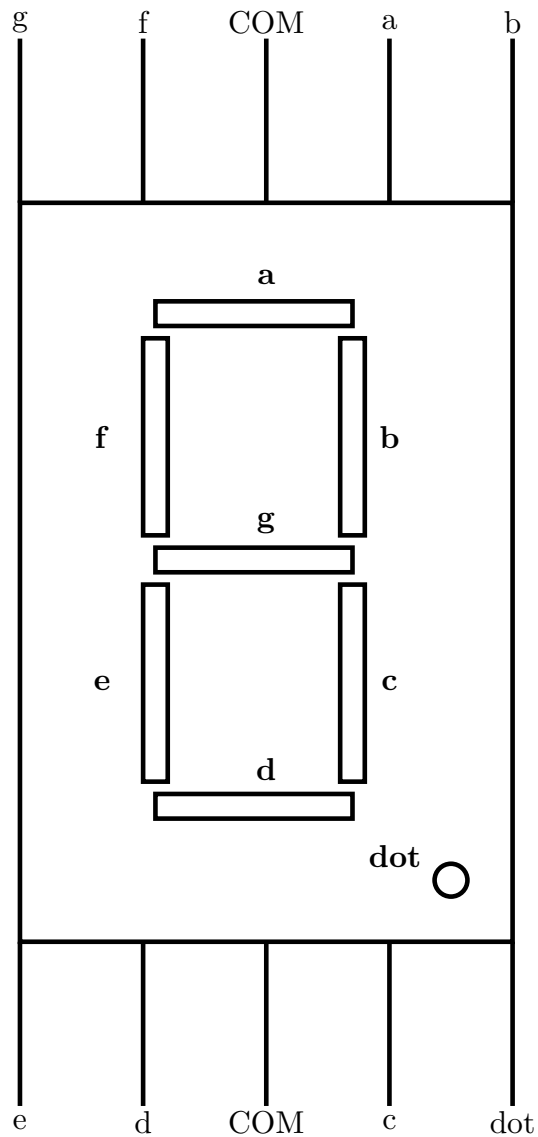
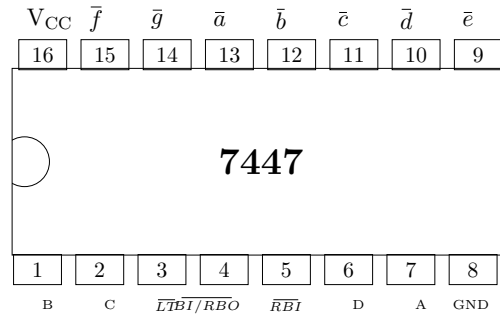

Figure 2.2: Seven Segment pins
Figure 3.1:
The seven segment display in Fig. 2.2 has eight pins,  $a, b, c, d, e, f, g$  and  $dot$  that take an active LOW input, i.e. the LED will glow only if the input is connected to ground. Each of these pins is connected to an LED segment. The  $dot$  pin is reserved for the  $\cdot$  LED.
1. Make connections between the seven segment display in Fig. 2.2 and the 7447 IC in Fig. 3.1 as shown in Table 3.2